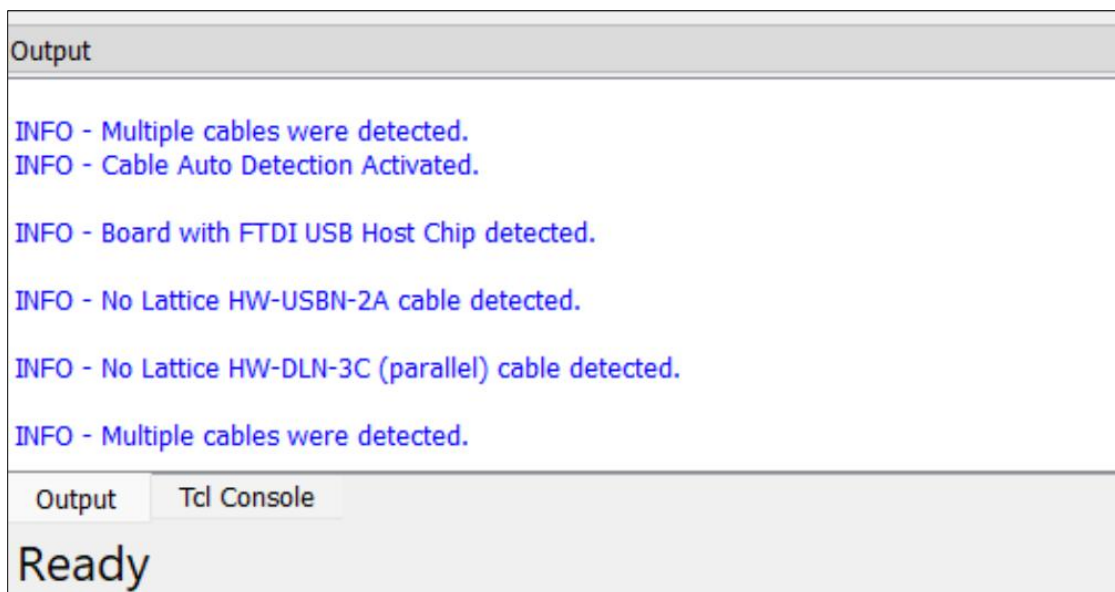

Figure 16.7. Diamond Program – Output Console
5. The programming process initiates, and upon completion, a confirmation message is displayed in the Output console, indicating successful programming (Figure 16.7).